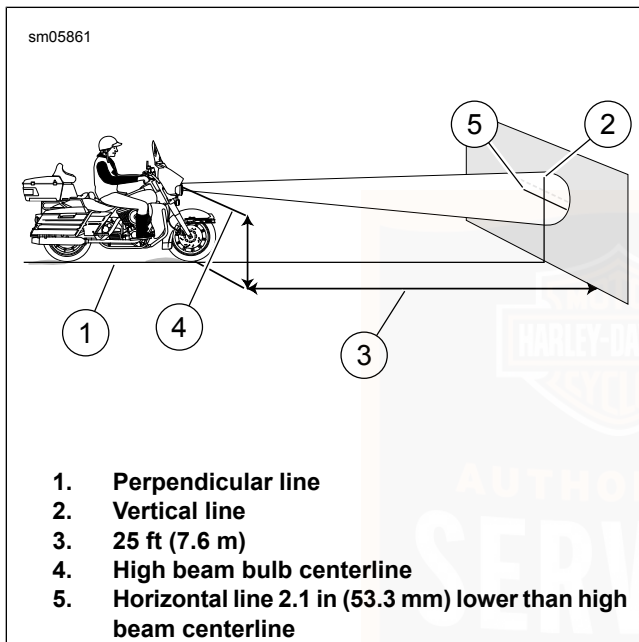

Figure 90. Headlamp Alignment: Quartz Halogen Type
4. See Figure 90. Park the motorcycle on a line (1) perpendicular to the wall.
6. Draw a vertical centerline (2) on the wall aligned with line (1).
7. With the motorcycle loaded, point the front wheel straight forward at wall. Measure the distance (4) from the floor to the bulb centerline:
8. Draw a horizontal line (5) through the vertical line:
- a. **Quartz halogen:** See Figure 90. 2.1 in (53.3 mm) lower than the measured distance.
- c. **LED, frame-mounted fairing:** See Figure 90. 2.1 in (53.3 mm) lower than the measured distance.
- a. **Quartz halogen:** See Figure 90 . Hot spot centered on mark with headlamp set to **high beam**.